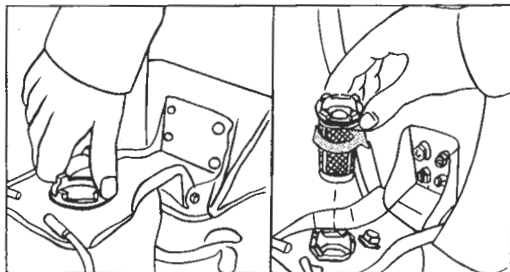

Fig. 27
**Air filter:** Air filter is fitted over air in-take hole on chassis below dual seat and requires cleaning during each periodical service (fig.27) & more frequently when riding in dusty areas.